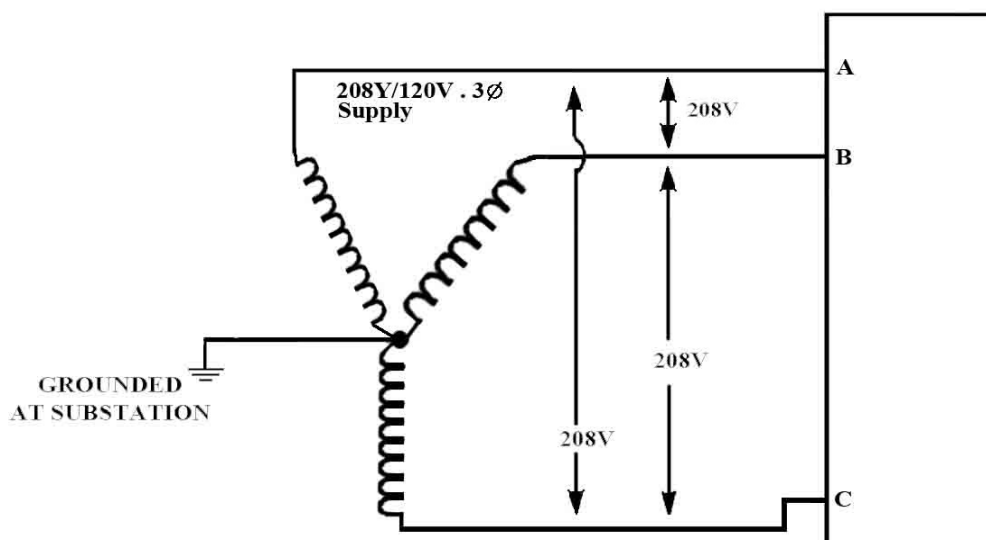

Figure 1-5. Three-phase ungrounded wye transformer.
The ungrounded wye system (fig. 1-5) is a star system (Y) with a neutral point, which is similar to the delta system in that it is a three-phase, three-wire system. The main difference in the two systems is the ungrounded wye system has two-system voltage potentials (phase and line) due to the nature of the connection. If you take a reading between ground and any of the three phases—A, B, or C—the voltage of that phase is measured. This voltage is phase voltage, which is possible because the common point (neutral) of the windings at the substation connects to the ground using the Earth to complete the path for return. If you take a voltage reading between any two of the three phases—A to B, B to C, or C to A—then it indicates a different value. This is line voltage and is 1.73 times the phase voltage. Why won't this voltage be twice the phase voltage since you are measuring the voltage in two phases? The reason is in the nature of the way a generator creates the voltage. Remember, no two phases can be at maximum at the same time, because their peaks are 120° apart. This difference in peak voltage results in the constant 1.73 number. The situation results in the two voltage potentials: line and phase.